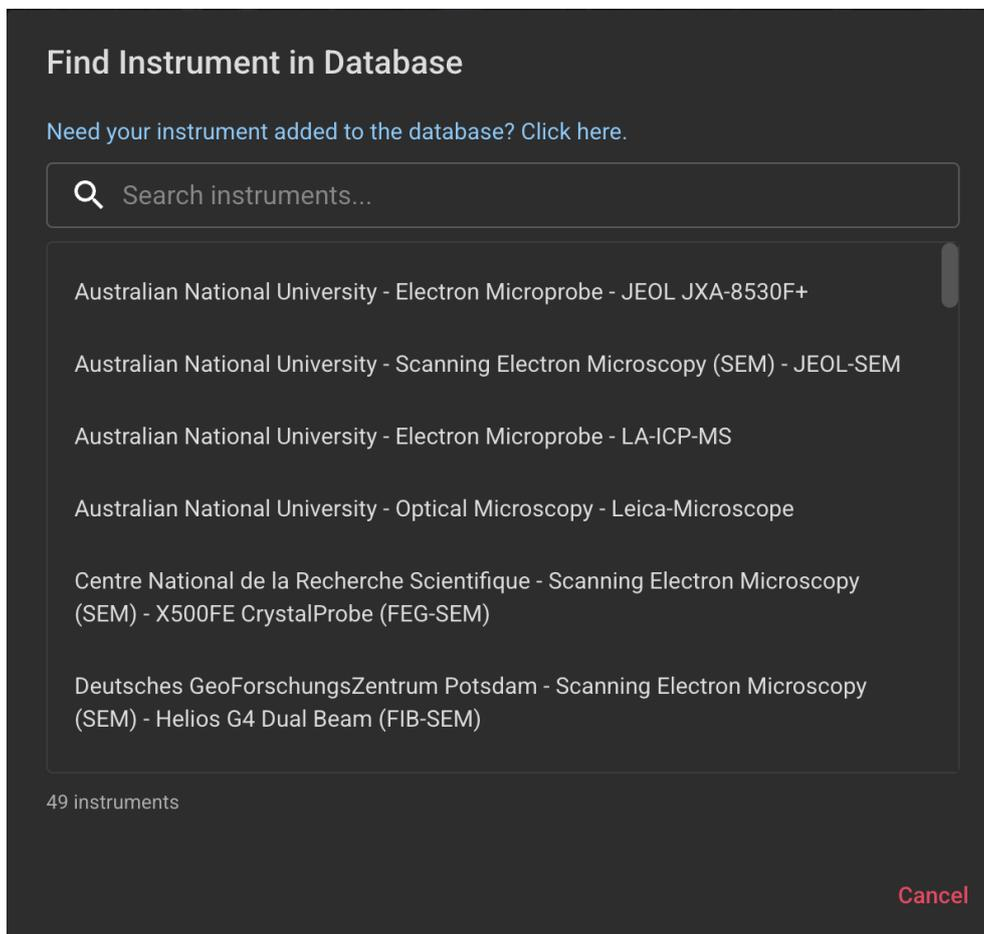

Figure 7. Screenshot of the **StraboMicro Select Instrument** modal.
1. During the 'Add New Sample' upload process within StraboMicro, a link to add a new institution to the catalog can be found in the 'Select Instrument' modal (Figure 7). Clicking the link generates an email request.